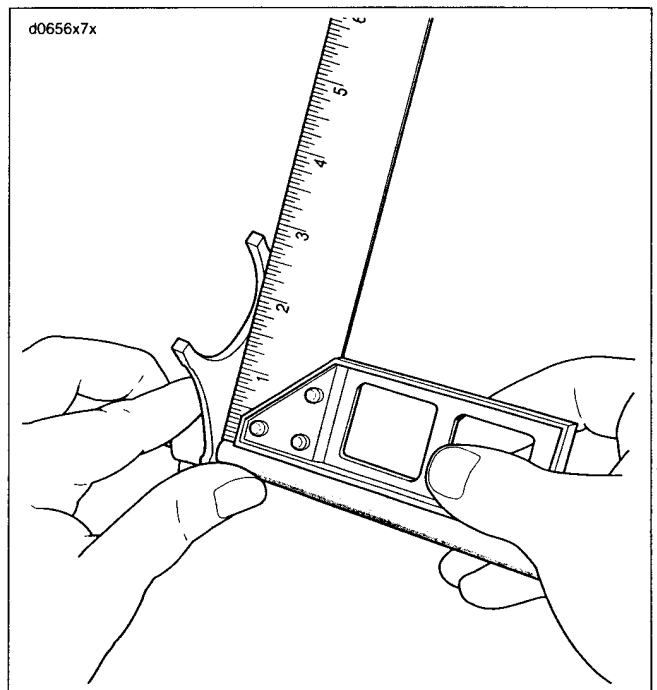

Figure 7-14. Checking Fork
3. See Figure 7-14. Check to see if fork is square on the shaft using a small carpenter's square. If fork does not rest directly on the square, it is bent and must be replaced.